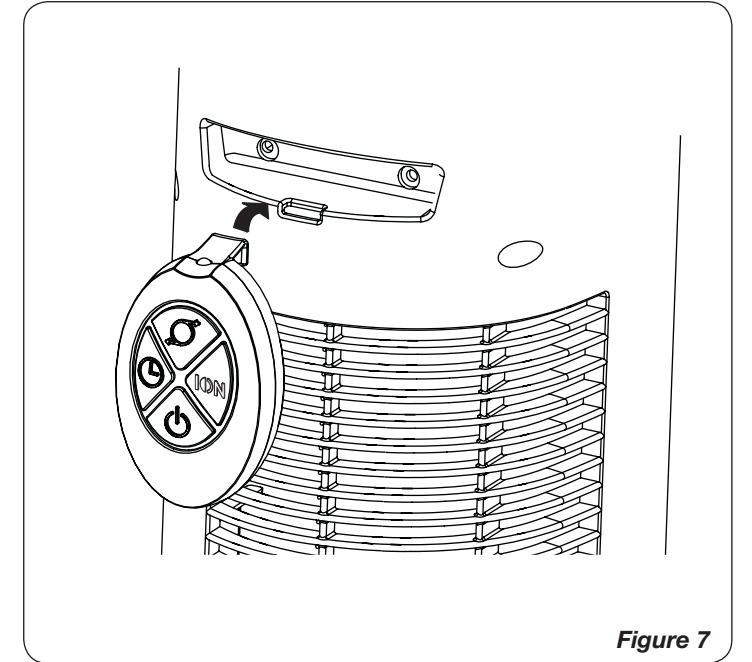

Figure 7
4. Remote control hook is located on back of Fan. (*Figure 7*)